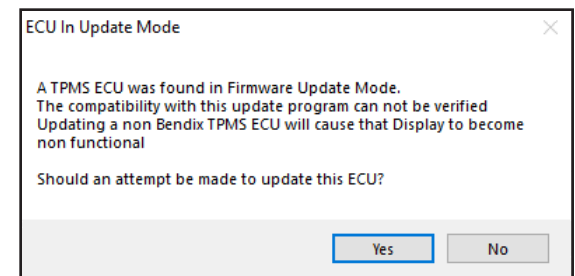

Figure 11 – ECU in Update Mode
5. Click the *Select* icon. The warning shown in *Figure 11* will appear. Select Yes. If the update fails, you can retry. However, if it continues to fail, it may be a sign that the Bendix™ FLC-20™ Camera is interfering with the update process. Please ensure the FLC-20 has been disconnected.